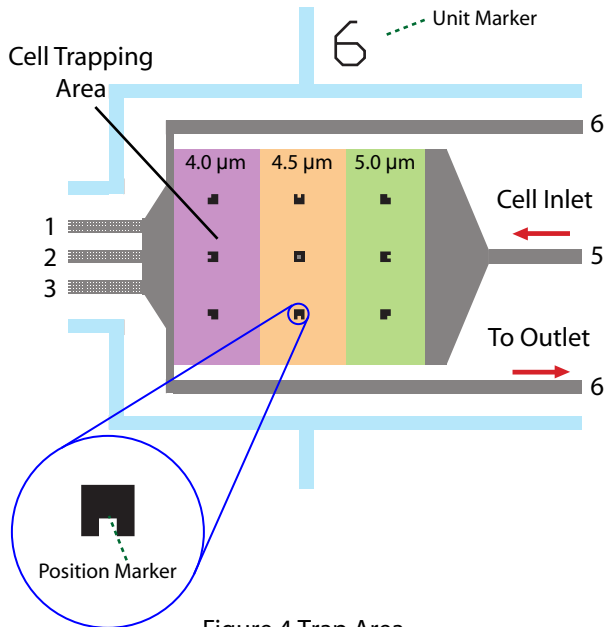

Figure 4 Trap Area
5. Place assembly on an inverted microscope. Focus on the center of the "imaging" area to find the cell trapping chamber. The trapping region is  $1.75 \times 1.5 \text{mm}$  in size, divided into three rectangular traps of 4.0, 4.5, and 5.0 micron ceiling heights in series as depicted in Figure 4.